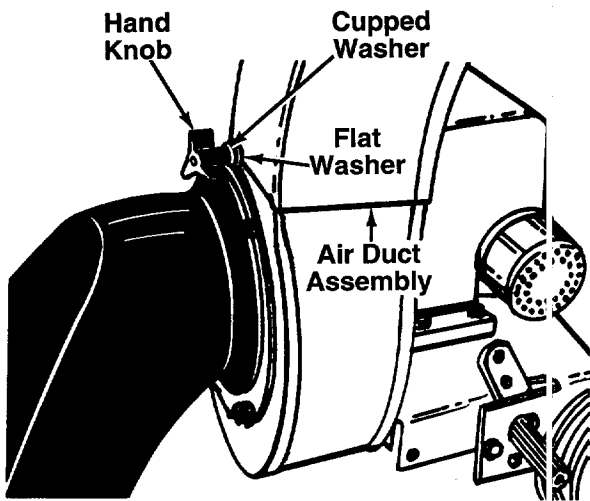

FIGURE 6.
Place air duct assembly over opening on top of housing. Secure with two flat washers, cupped washers (cupped side of washers against flat washers) and hand knobs. See figure 6.
1. Remove the bag. Remove the air duct assembly by removing two hand knobs, cupped washers and flat washers. Refer to figure 6.